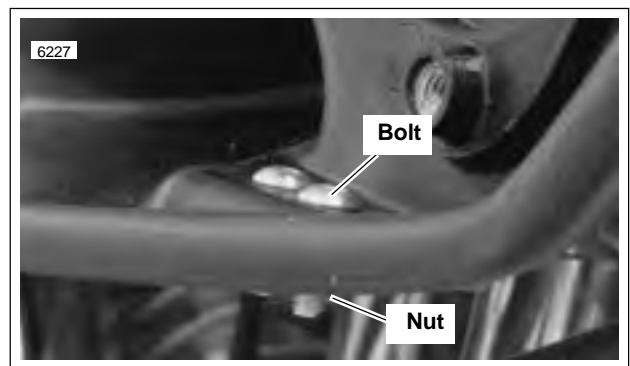
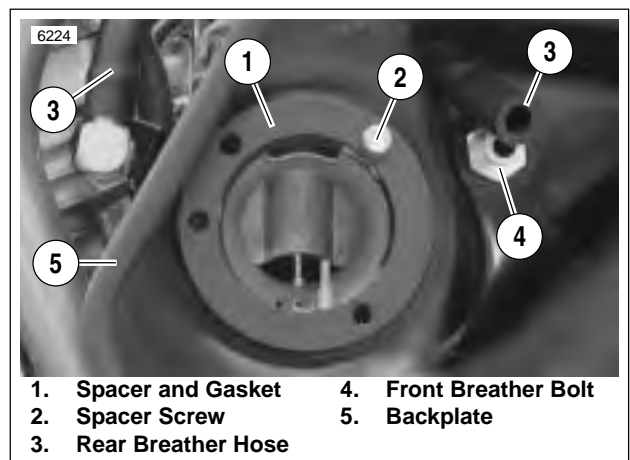

Figure 4-107. Air Cleaner Front Mount
Figure 4-108. Air Cleaner Spacer
- See Figure 4-107. Remove nuts (2) and bolts (1) from front mount.
- See Figure 4-108. Remove spacer screw (2) and spacer and gasket (1).
- Remove front breather bolt (4).
- Pull backplate (5) away from motorcycle and rear breather hose (3). On California models, slide fresh air inlet hose from carbon canister through backplate.
- b. See Figure 4-108. Slide rear breather hose (3) through backplate (5). On California models, slide canister fresh air inlet hose from carbon canister through backplate.
- d. Install front breather bolt (4). Tighten to 10-15 ft-lbs (14-20 Nm).
3. Apply LOCTITE THREADLOCKER 243 (blue) to spacer screw (2). Install spacer and gasket (1) using spacer screw (2). Tighten to 7-9 ft-lbs (10-12 Nm).
4. See Figure 4-107. Apply LOCTITE THREADLOCKER 243 (blue) to bolts (1). Insert bolts (1) through backplate and mount. Install nuts (2). Tighten to 3-5 ft-lbs (4-7 Nm).